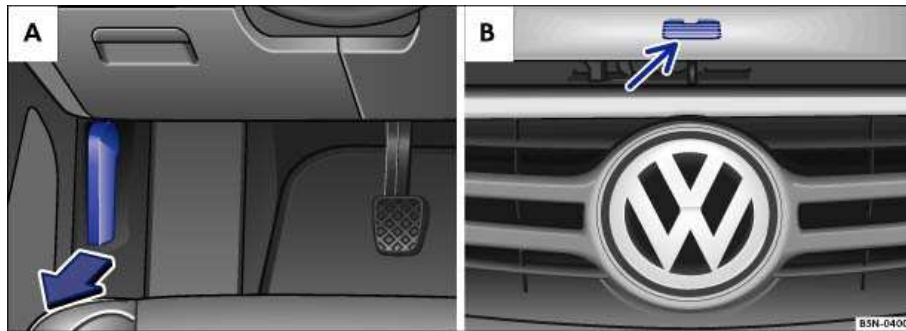

Fig. 167 A: Inside engine hood release in the footwell on the driver side. B: Outside engine hood release in the radiator grille.
- Open the driver door and pull the inside hood release lever in the direction of the arrow ⇒ fig. 167 A. The engine hood is released from its latch by a spring ⇒ ⚠.
- Push the outside hood release lever ⇒ fig. 167 B (arrow) and lift the hood all the way up.